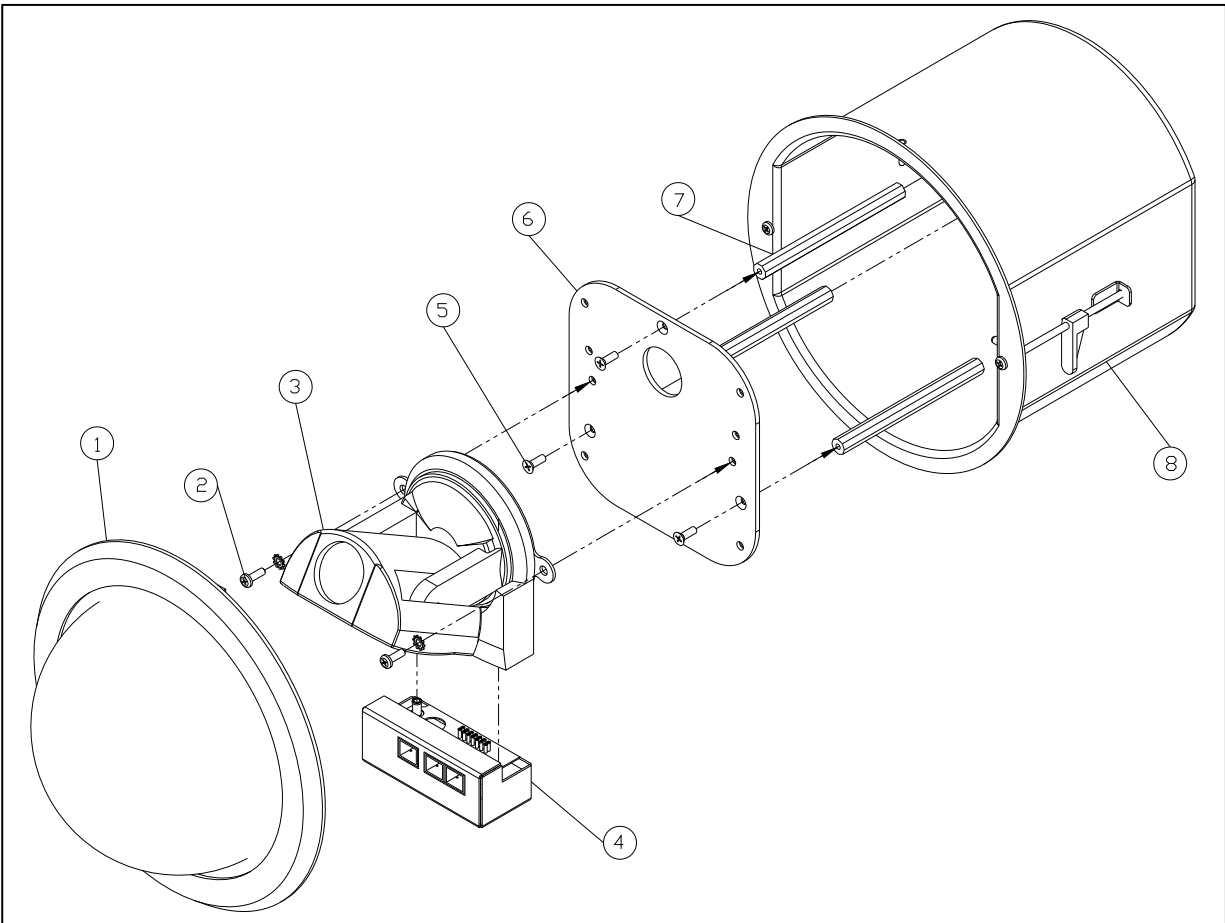

Figure 3: Exploded View of DomeVIEW Flush Mount Dome for Canon VC-C50iR
- 4) Thread on the three hex shaped stand-offs (7) on to the studs in the bottom of the metal back can (8) (See Figures 3 and 4).
- 6) Attach the EZCamera Cabling Shoe (4 – Figure 3) to the Canon VC-C50iR.
- 7) Attach the camera (3) to the camera mounting stage (6) with two 8-32 x .5" pan head screws (2) and two #8 lock washers (see Figure 3). Skip to Step 12.